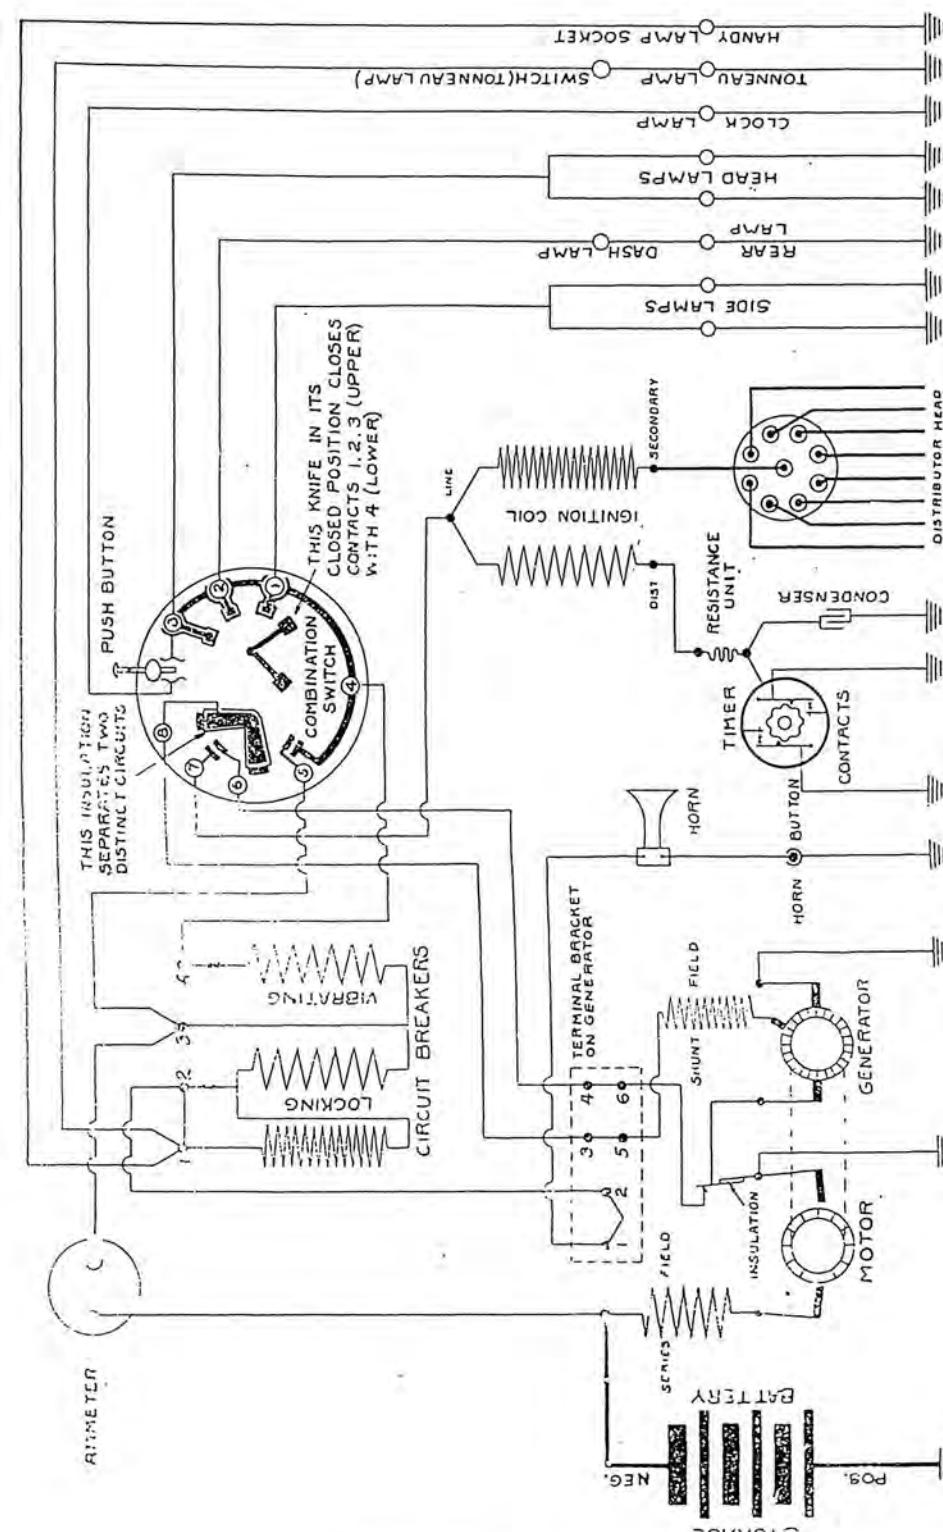
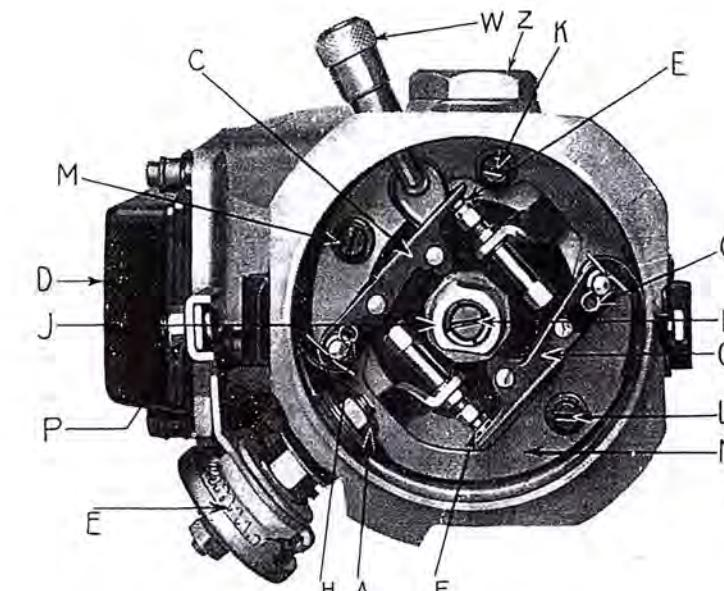

Fig. 6—Circuit Diagram.
Fig. 7—Timer.
The timer, by which the low tension current is interrupted at the proper time to produce the spark, is beneath the rotor. An eight lobed cam "J," Fig. 7, on the timer shaft, operates two contact arms "C" and "O." As the cam revolves, these arms alternately complete and break the primary circuit. The cam is held in place by the lock screw "I."
**ADJUSTMENT OF CONTACTS FOR GAP**—To adjust the gaps between the contact points, remove the distributor rotor. (See "Removal" under "Distributor Rotor," page 123.) Crank the engine by hand until one of the contact arms is directly on top of a lobe of the cam "J," Fig. 7. Then adjust the corresponding contact points so that they stand .020 inch apart if the car is new or .015 inch if the car has been driven more than 2,000 miles. Adjust the other contact points in the same manner with the other contact arm on top of a cam lobe. Be sure that both sets of contact points are adjusted exactly alike. If the segment plate, "N," Fig. 7, is correctly adjusted, both contact arms "O" and "C" will be directly on top of lobes of the cam "J" at the same time. If they are not, adjust the contacts for gap as directed above and adjust the segment plate "N" as directed under "Adjustment of Segment Plate," page 43.
Switch on the ignition and crank the engine slowly by hand. The two lights will be extinguished at the same instant if the contact points open simultaneously. If they do not open simultaneously and the gaps between the contact points are in correct adjustment (see under "Adjustment of Contacts for Gap"), adjust the segment plate "N," Fig. 7. (See below under "Adjustment of Segment Plate").
Next remove the distributor head, also the rotor (see "Removal" under "Distributor Rotor," page 123) and loosen the lock screw "I," Fig. 7, just enough to allow the cam "J" to be turned by hand after the rotor is fitted. (The lock screw should not be loosened enough to allow the cam to turn on the shaft when the engine is cranked by hand with the rotor in place.)
Either of two methods may be used for indicating the instant the contact points open. First method: With the distributor head and rotor in place, switch on the ignition and hold a high tension spark plug wire about one-eighth of an inch away from the cylinder casting and crank the engine slowly by hand in the direction in which it runs. Stop cranking immediately a spark occurs between the wire and the casting. (It will be necessary to crank the engine nearly two complete revolutions before the spark occurs.) Second Method: With the ignition switched off, connect a six volt test lamp in series between the No. 3 terminal of the circuit breaker (see Fig. 6) and the terminal "P" on the timer (Fig. 7). Stop cranking immediately the light is extinguished.
The resistance unit is a coil of resistance wire wound on a porcelain spool as shown in Fig. 7. Under ordinary conditions it remains cool and offers little resistance to the passage of current. If for any reason the ignition circuit remains closed for any considerable length of time with the engine not running, the current passing through the coil heats the resistance wire, increasing its resistance to a point where very little current passes, and insuring against a waste of current from the battery and damage to the ignition coil and timer contacts.
The ignition condenser is mounted on the right-hand side of the distributor housing in a waterproof casing "D." (See Fig. 7.) It consists of layers of tinfoil separated by sheets of paraffin paper. Alternate layers of tinfoil are connected to opposite terminals. The current does not pass through the condenser and on test the terminals should show open circuit.